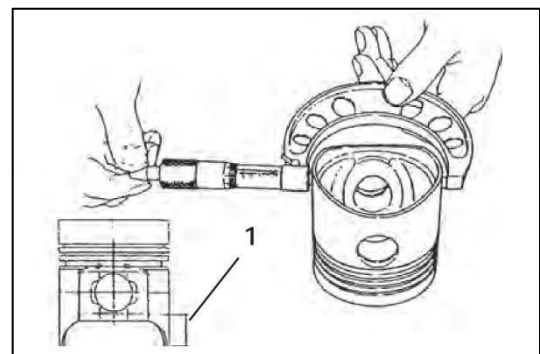

Figure 115
4. Measure the diameter of the piston skirt at 90° to the wrist pin bore as shown (Figure 115). Measurements must be taken at a specified distance (Figure 115, 1) from the bottom of the piston, based on engine model. Record the measurements. See Piston specifications.